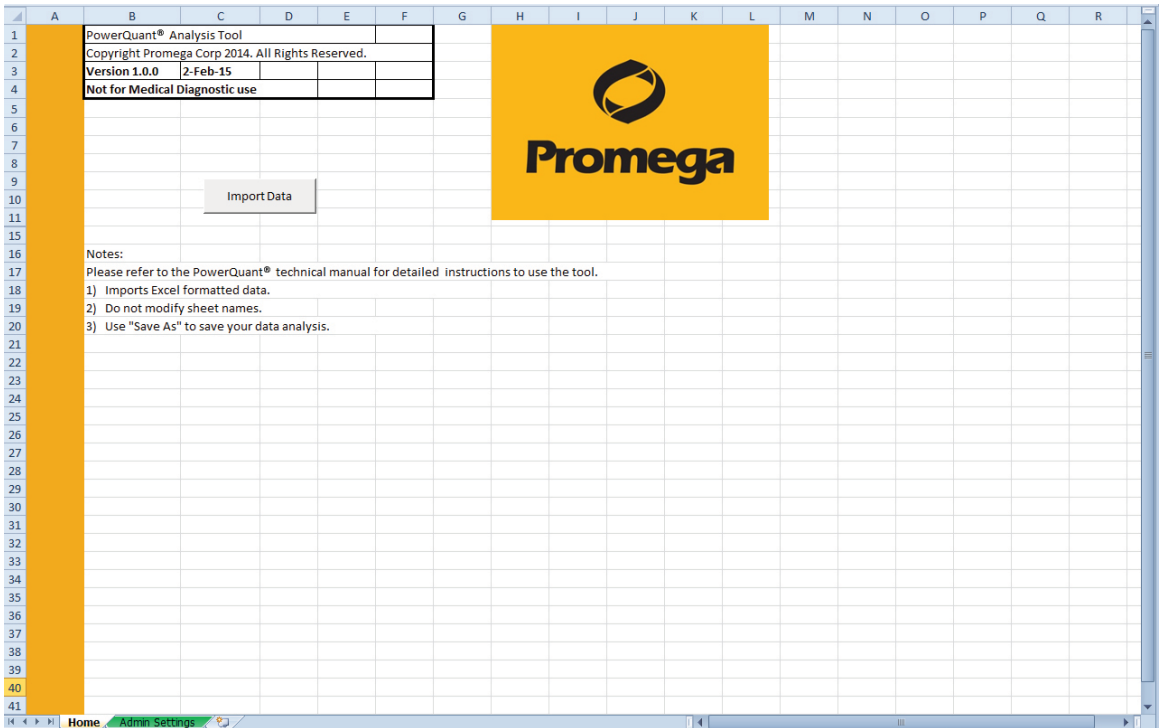

Figure 98. The Home worksheet.
4. The Home worksheet will appear (Figure 98). Select the Admin Settings worksheet at the bottom of the screen.